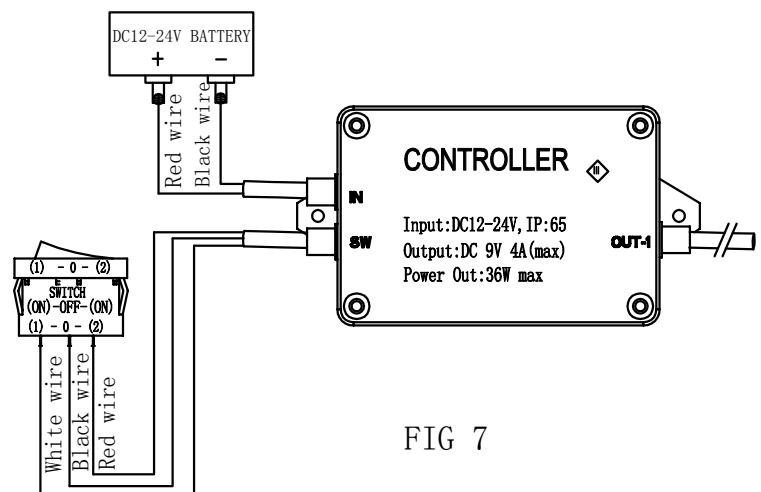

FIG 7
5. According to the wiring diagram, connect the wires of the light to the terminal of the controller (Ref. FIG 7). Then lock the top cover into the bottom of the controller box with 4 screws. place the controller in a suitable location.